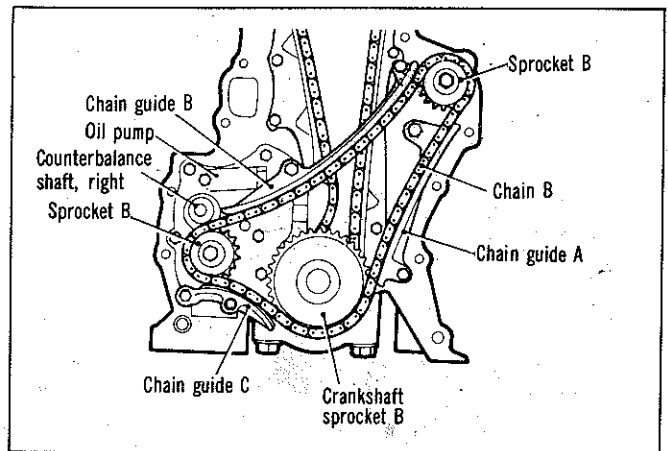

Fig. 31—Counter-balance shafts drive chain
(1) Drain cooling system and remove radiator, hoses, fan and alternator.
(2) Rotate the engine to T.D.C. with No. 1 piston on compression.
(3) Drain engine oil and remove engine oil pan bolts allowing oil pan to clear timing chain cover.
(4) Remove the crankshaft pulley.
(5) Remove rocker cover, distributor and remove the two bolts attaching the cylinder head to the timing chain cover.
(6) Remove the timing chain cover being careful not to damage the head gasket.
(7) Remove the balancer shaft chain guides A, B and C—Refer Fig. 31.